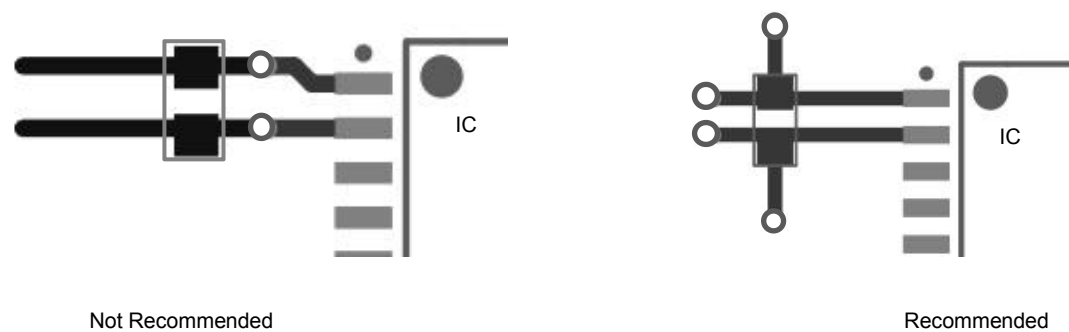

Figure 25-2
3. When it is necessary to place vias in the power supply line and the ground wire, the position of the vias should be placed on the outside of the capacitor relative to the chip pins, ather than between the capacitor and the chip, as shown in the figure25-2 below to reduce the number of vias effect of parasitic inductance.